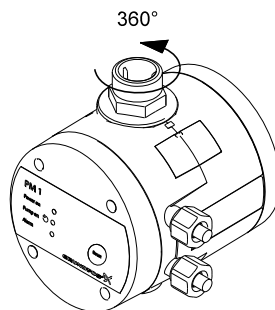

Fig. 1 Rotary outlet connection
The outlet connection of the unit can be rotated 360°. See fig. 1.
2. Carry out the electrical connection as shown in fig. 1 or 2, page 10, depending on motor type.